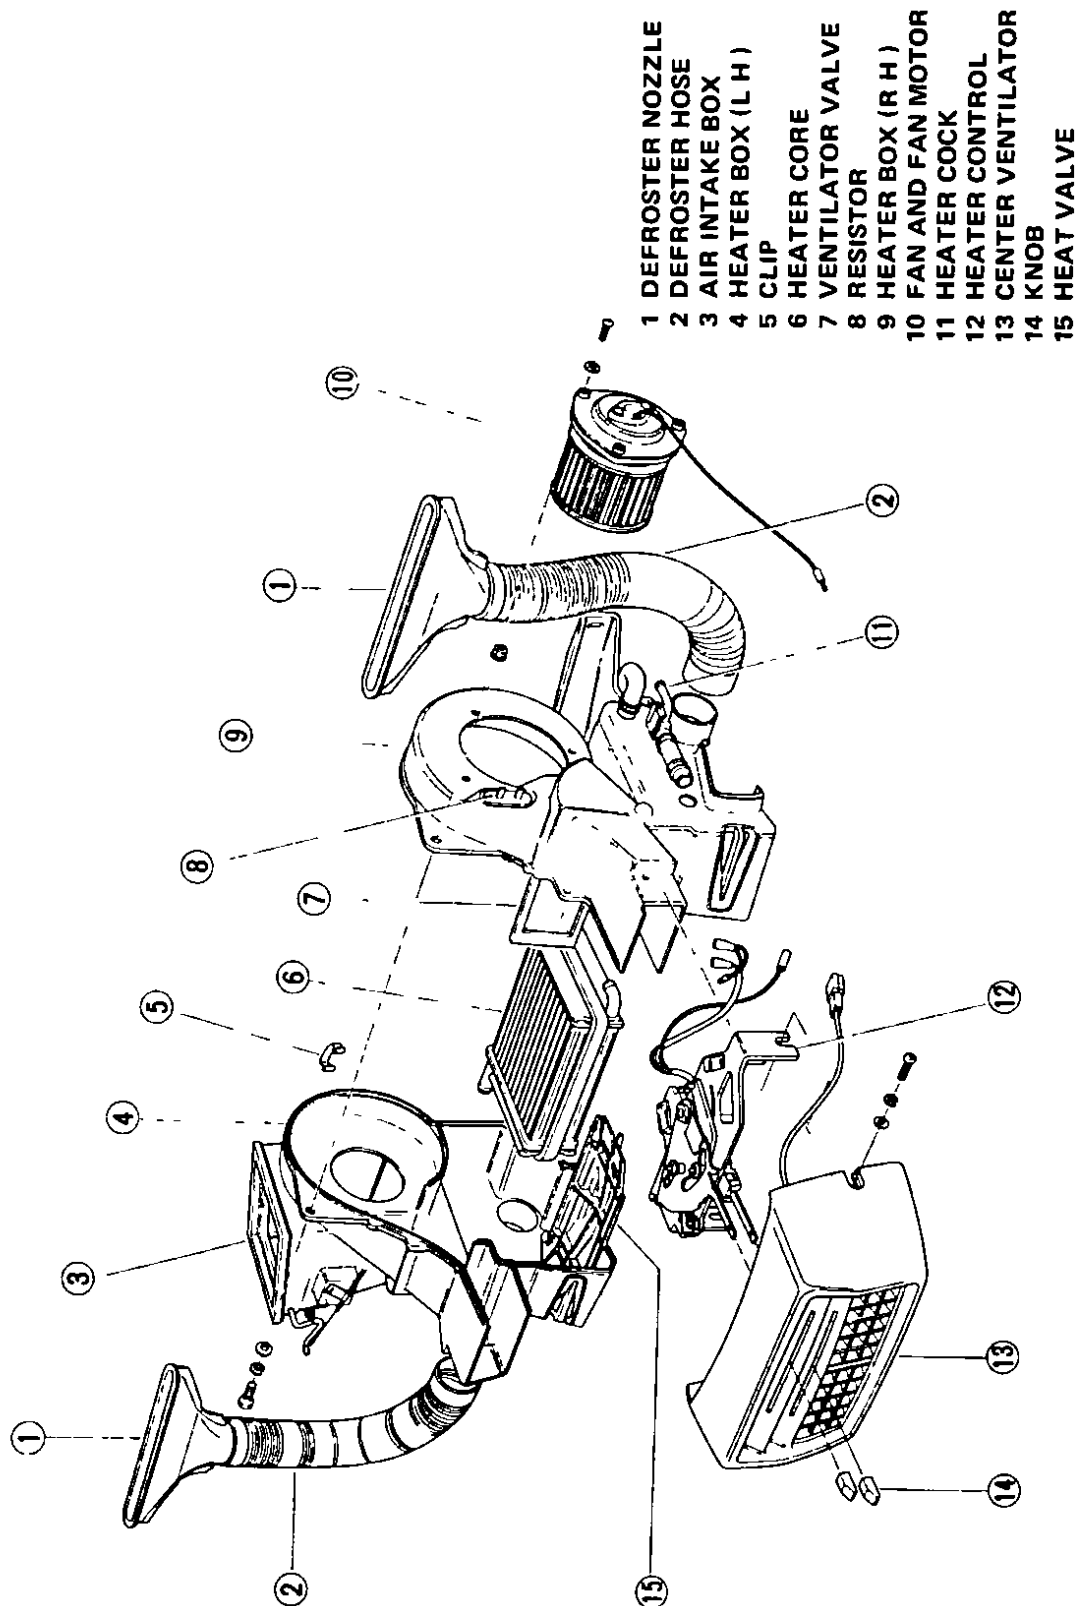

Fig 97 Heater system – Model B210
- 1 Remove heater control as follows, Fig 97